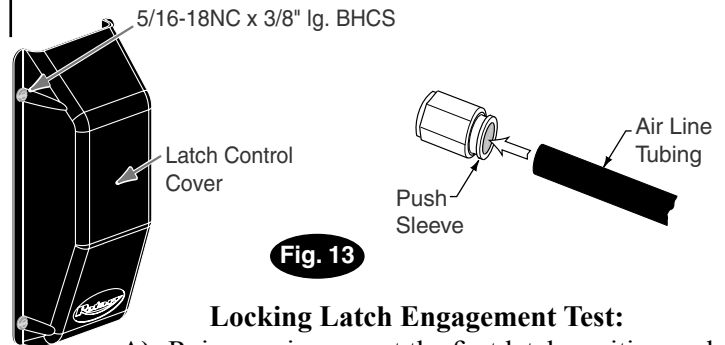

Fig. 13
- E) Install latch covers with 5/16"-18NC x 3/8" lg. BHCS, Fig. 13.